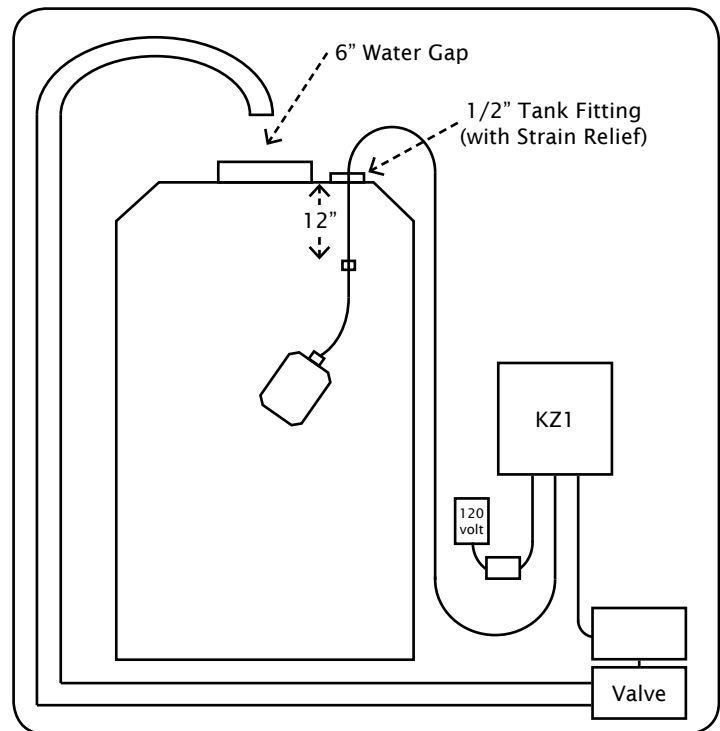

figure 2
- Install a 1/2" tank fitting on the top or side of the tank at the desired shut down level. **(Fig. 2)** At this time determine if the 20' of cable is long enough for your application. If not, See Parts Breakdown for additional cables and connectors.